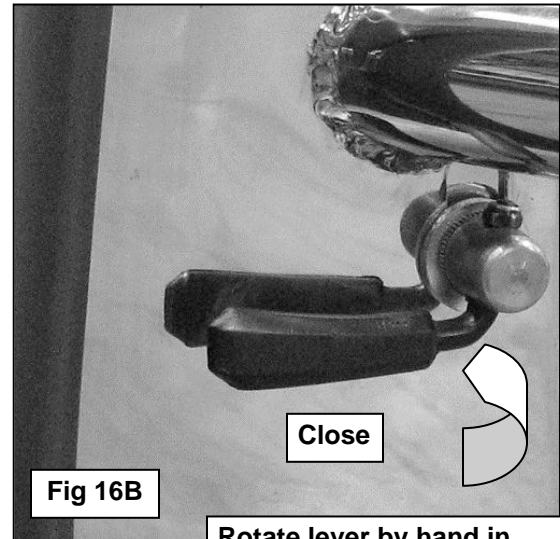

Fig 16B
16. Push the Grille Guard back towards the vehicle until it is vertical, check the alignment again and adjust the Grille Guard as required. Tighten all Mounting Bracket hardware including the Quick Release Bolts, (**Figure 16B**).
4. Once the hood is completely closed, push the Grille Guard back to its closed, upright position and tighten all hardware on the Grille Guard. Rotate the lever on the Quick Release clockwise to tighten, **(Figure 16B)**. No tools are required to close the Quick Release levers. It will require some effort to open and close by hand when properly adjusted.